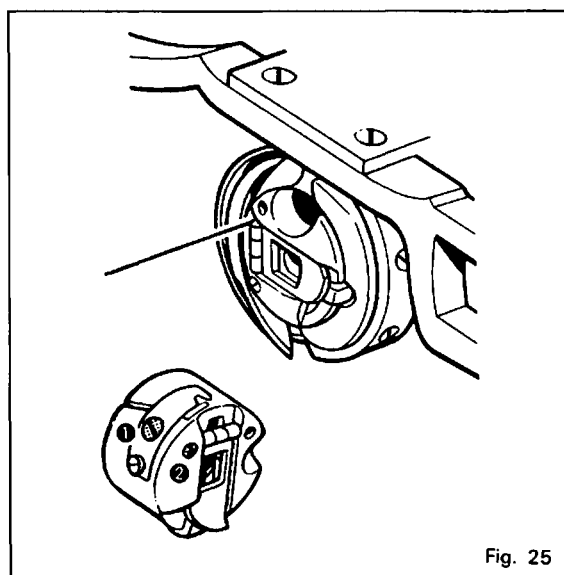
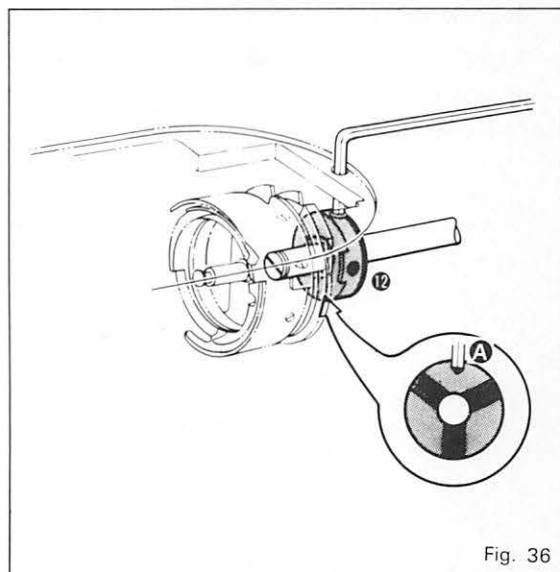

Fig. 25
Fig. 36
- Loosen lower tension adjusting screw ❶ and get the tension of adjusting spring to be "0".
- Adjust the lower thread tension to turn the adjusting screw ❷ putting the bobbin into the bobbin case. (Fig. 25)
If you remove the needle plate, you may find out clutch adjusting holes as per Fig. 25. Turning the pulley toward you, put the hexagonal spanner into the hole and get the position of clutch so that the centre of needle meets with hook point, when next to ① hole meets hole ②. (Fig. 36)